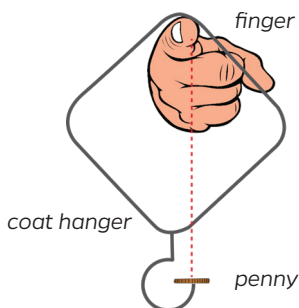

Figure 5
1. Introduce the lesson by dangling one of the diamond-shaped coat hangers from your index finger so that the tip of the hanger’s hook is pointing upward towards your finger. If needed, adjust the bend of the hanger’s hook so the tip is pointing straight upward towards your finger (See Figure 5). Hold up a penny and ask students to predict what they think would happen if you placed the penny on the tip of the coat hanger and spun the hanger around in a circle. Next, ask students to raise their hands if they have heard the terms “centrifugal force” and “centripetal force” and solicit volunteers to explain each of these terms in their own words. Then tell students that only one of those forces is actually real and explain that they are going to do an inquiry activity to learn more about the actual forces involved in circular motion and how engineers apply the physics of circular motion to design safer curved roads.